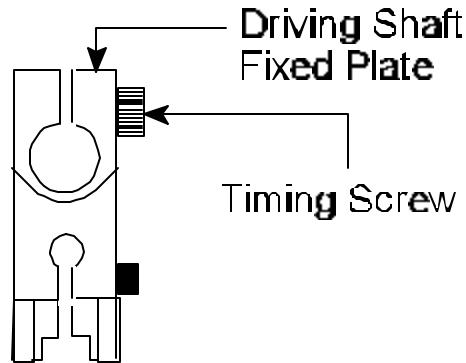

Figure 3
- Using a 3 mm Allen wrench, **loosen** timing screw allowing Take-up Lever and Turret Plate (Assembly) to move independently. See Figure 3.